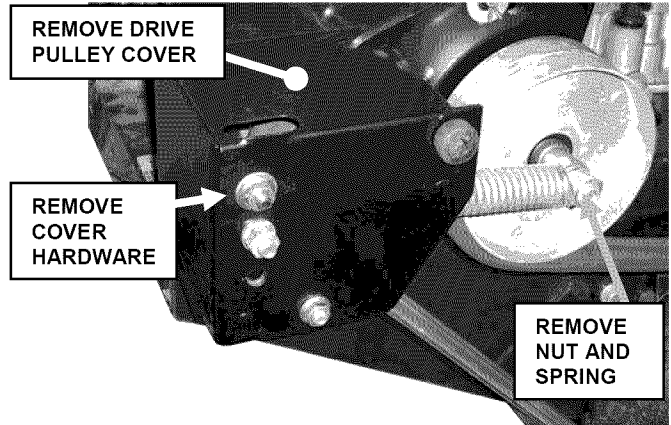

FIGURE 6.12
1. Remove Drive Pulley Cover. See Figure 6.12.